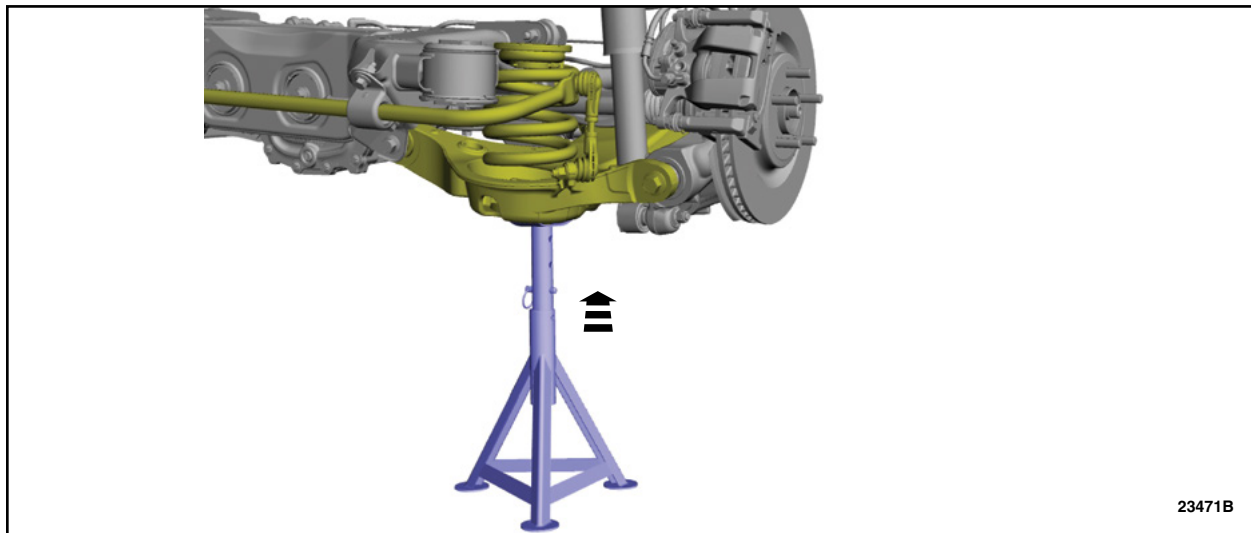

FIGURE 1
4. *On the rear LH side of the vehicle*, use a suitable jack to raise the suspension until the distance between the center of the hub and the lip of the fender is equal to the measurement taken *in Step 1*, (curb height). See Figure 1.